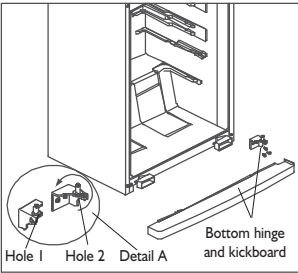

Fig. 3
- 3. Remove the kickboard by pulling it outwards. Unscrew the screws fastening the bottom hinge and remove it. Unscrew the hinge pin from hole 1, rotate the bottom hinge by 90° and screw the pin into hole 2. (See detail A), then tighten the hinge on the bottom left side of the refrigerator. (Fig. 3)